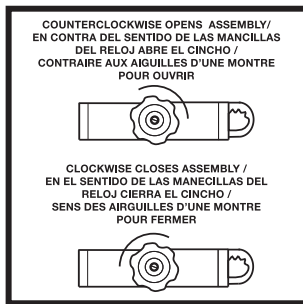

Figure 4
- For FAS-TRAC suspensions, turn the knob counter-clockwise to open the ratchet band to its maximum size (Figure 4).
- For Fas-Trac suspensions, tighten the ratchet band by turning the knob clockwise (Figure 4).